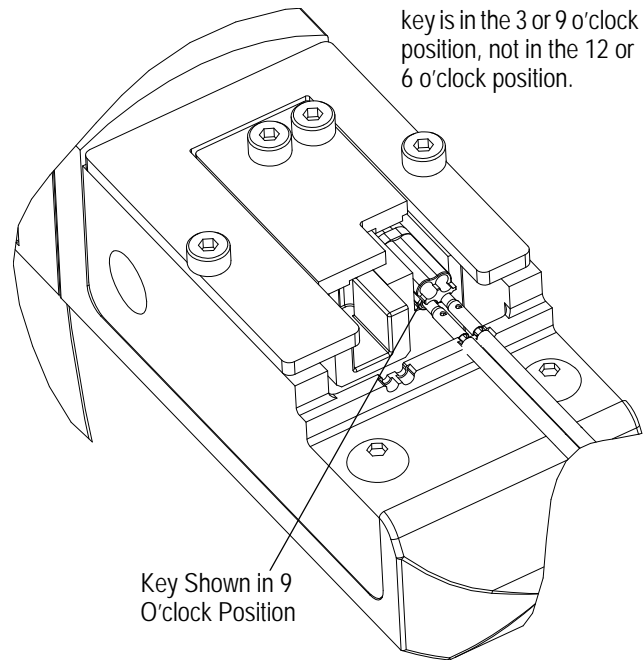

Figure 6
3. Take the pre-inserted assembly and carefully place it in the tool as shown in Figure 6. Slowly actuate the handle until the stroke is complete.